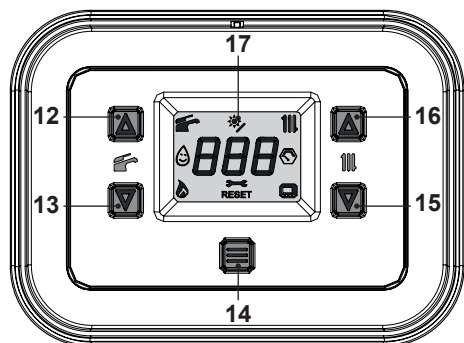

Fig. 7.10
- Press the 14 key for 5 seconds until both  and  symbols appear on the display Fig. 7.10.
- Switch off the boiler by pressing the 14 (Fig. 7.10) key for 5 seconds until the  symbol appears on the LCD display (Fig. 7.9).
Press the reset key on the boiler control panel 14 (Fig. 7.10) to reset its functioning.